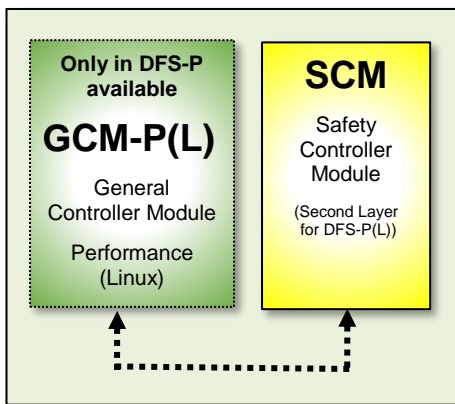
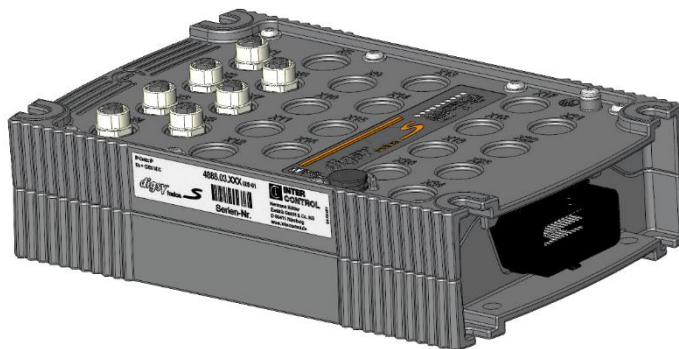

Figure 3-3: Functionally safe controller
Figure 3-8: *digsy*[®]_{fusion} SMALL with central plug
- SMALL: 2 basic housing elements (see Figure 3-8)
Figure 3-8 shows a *digsy*[®]_{fusion}-controller in the SMALL configuration, consisting of two basic housing elements with central plug. A printed circuit board includes all the necessary control components. The communication interfaces are connected to external components via M12 plug connectors. The central plug ensures the compact connection of the input/output signals.
Figure 3-8 corresponds e.g. to the solution illustrated in Figure 3-3.